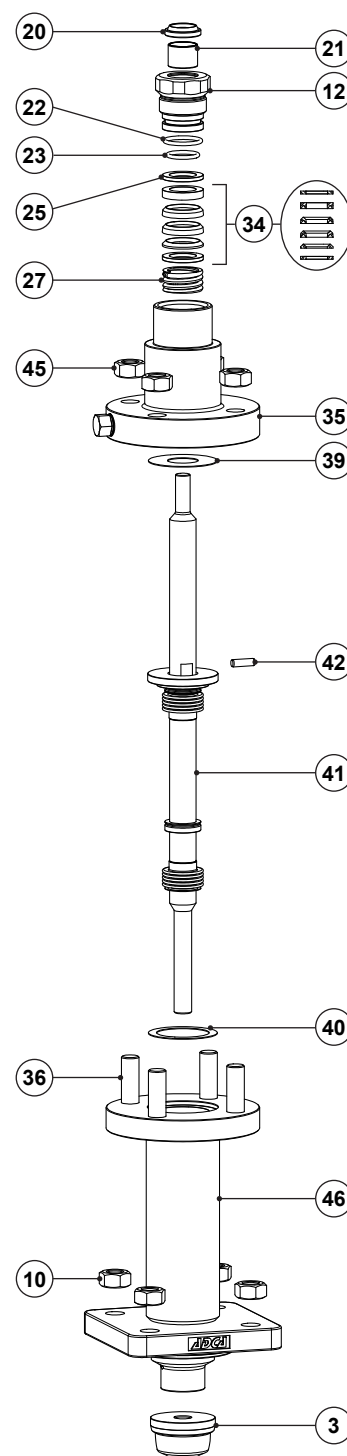

Fig. 12 - Bellows sealing (BV1)
1. Undo the nuts (45) gradually in a crisscross pattern and separate the bellows bonnet (35) from the bellows housing (46).
2. Unscrew the gland nut (12) and remove it carefully together with the O-rings (22, 23).
4. Apply a suitable lubricant to all steam sealing components and carefully slide them into the packing box according to Fig. 12.
5. Renew the scraper ring (20), plain bearing (21) and O-rings (22, 23) if necessary. Fit the O-rings (22, 23) and the gland nut (21), screwing it loosely.
6. Undo the nuts (10) gradually in a crisscross pattern and separate the bellows housing (46) from the valve body (1).
7. Firmly fix the valve plug (3) on a vise, fit a wrench on the two slits close to the locking pin (42) and unscrew the plug (3) from the stem (7).
8. Remove the valve stem (7) with the bellows (41) from the bellows housing (46).
10. Fix the new valve plug (3) on a vise with the thread facing up. The vise jaws should be gripping the plug section with the largest diameter.
11. Fit a new gasket (39) and insert the new bellows (41) on the bellows housing (46).
12. Apply a suitable high temperature adhesive compound on the lower stem (7) thread and screw it onto the seat, tightening with 50 Nm (DN 15 to 50 – 1/2" to 2"), 120 Nm (DN 65 to 150 – 2 1/2" to 6") and 230 Nm (DN 200 – 8").
13. Insert the pin (42) onto the stem (7) and fit a new gasket (39).
14. Align the center of the bellows bonnet (35) with the stem (7), sliding it carefully while aligning the pin (42) with the slit.